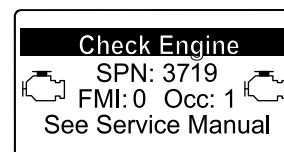

Figure 56
- Engine warning SPN 3719, FMI: 0 (Figure 56)